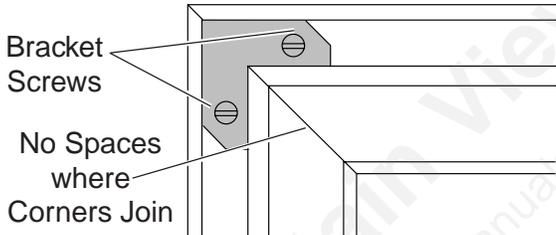

Figure 11 - Making Sure Corners Are Flush
4. Hold the corners together securely. Tighten screws on bracket with flat head screwdriver. Make sure the corners are flush and there are no spaces. **Do not over tighten screws.** Refer to Figure 11.